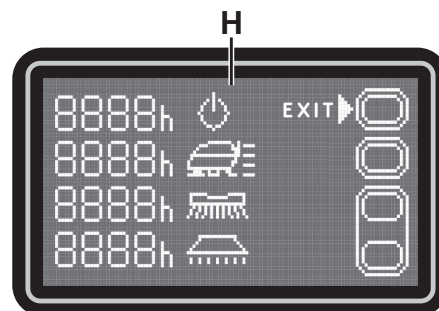

Figure 10
**Operating Time Counter Screen (H, Fig. 10)**